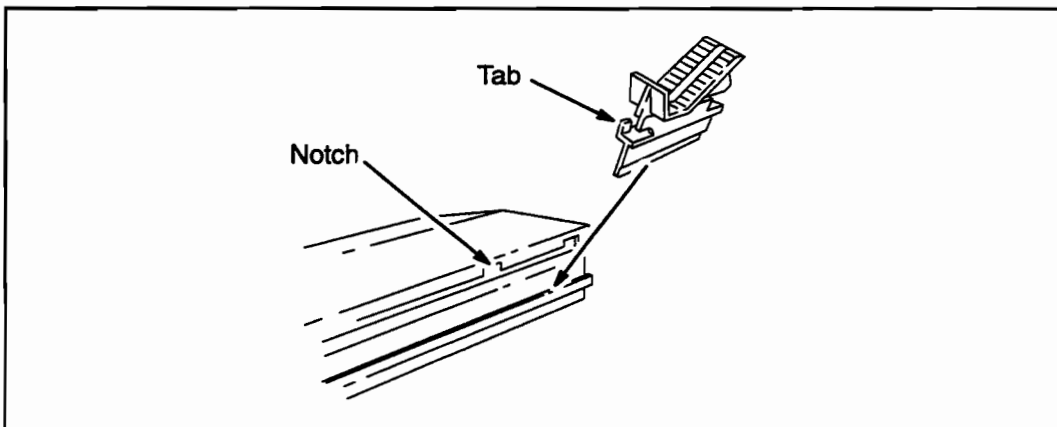

Figure 3-16. Blade Installation
3. Install one of the manual cutter blades by inserting the bottom edge of the blade assembly into the guide and rotating the tabs into the guide notches. (See Figure 3-16).